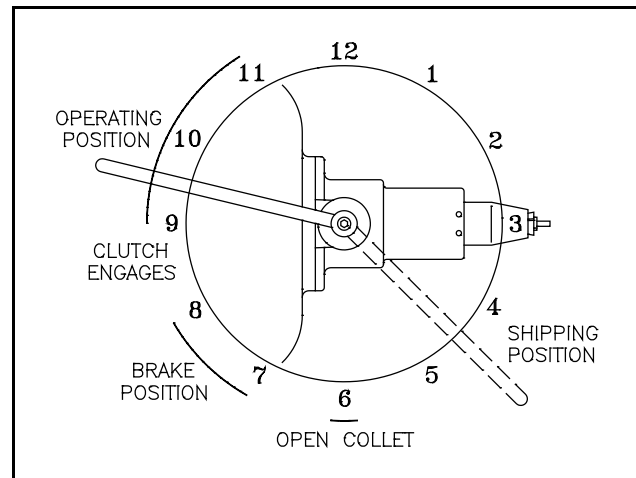

Figure 2.
- 5.1.1 Work is done with the handle in the operating position at approximately 9:30 o'clock. See Figure 2.
- 5.2.1 From the operating position, move the handle to the open collet position (6:00 o'clock). See Figure 2.